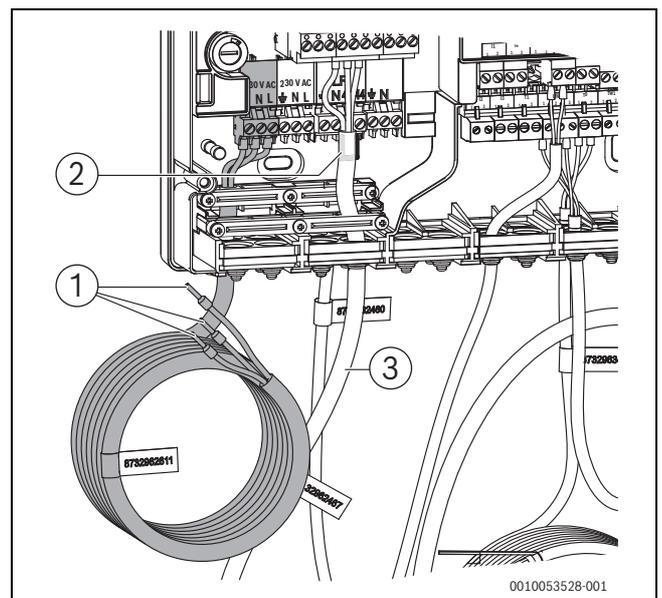

Fig. 28 Connect 230 V voltage supply
- ▶ If necessary, remove the cable ties from the 230 V power cable (→Fig. 28) and route the cable through the back panel or the bottom panel of the hybrid set.
- ▶ Before connecting an external controller with 230 V connection, remove the jumper between **43** and **44** (→Fig. 28).